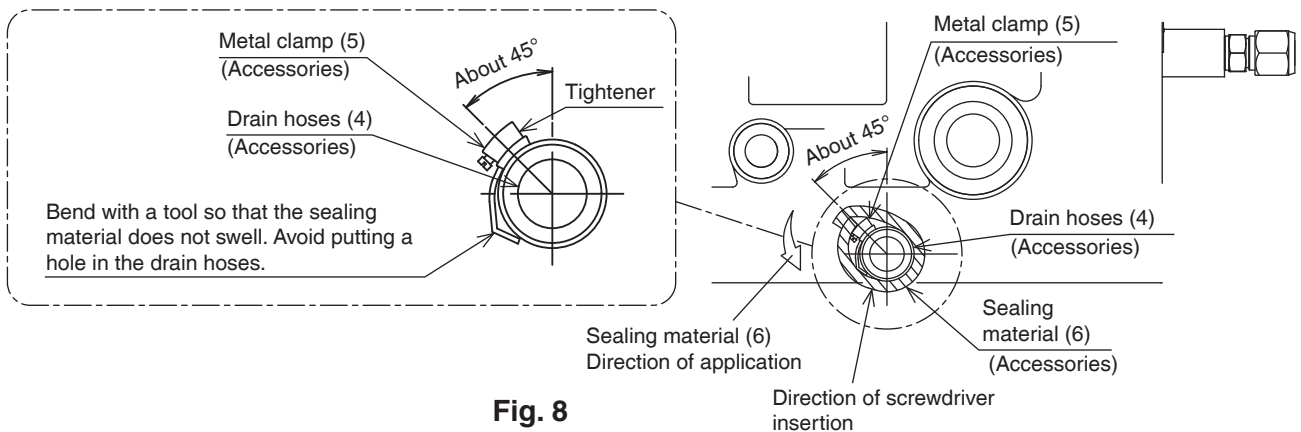

Fig. 8
- Bend the tip of the metal clamp (5) so that the sealing material does not swell. **(Refer to Fig. 8.)**